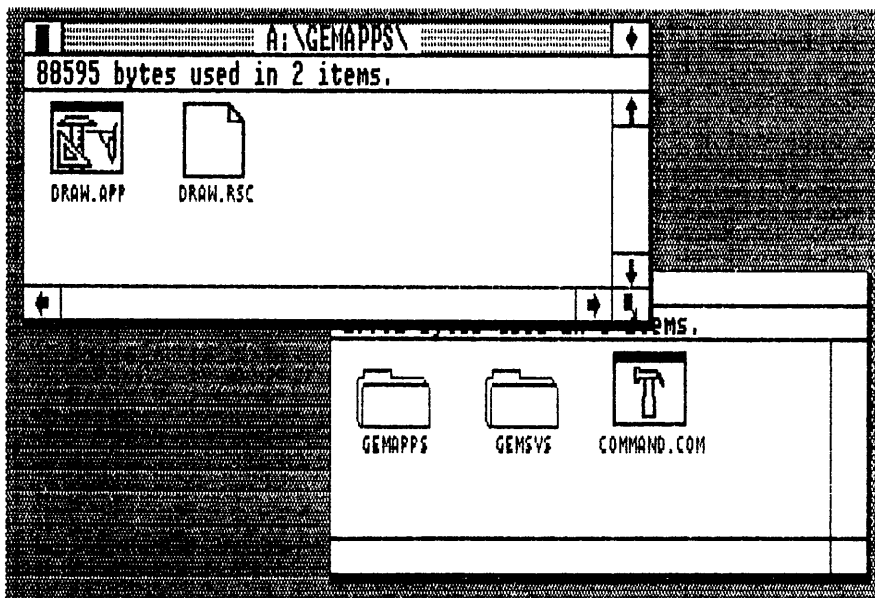

Fig. 4-1. A properly completed GEM Draw Application disk.
- ☐ The installation of GEM Draw is now complete (Fig. 4-1).